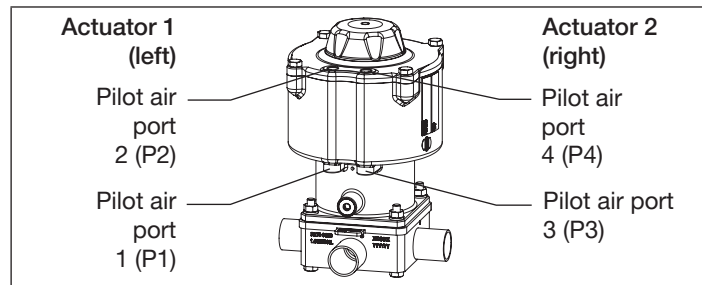

Fig. 25: Pneumatic connection
6) Actuator assignment see “Fig. 25”.